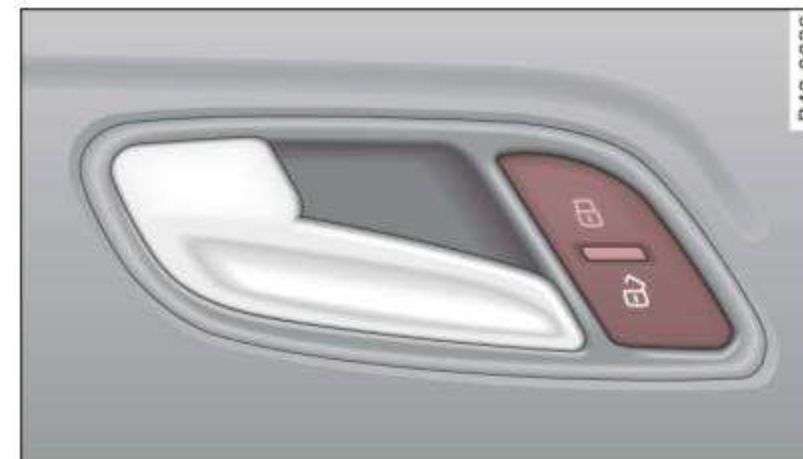

Fig. 33 Section from driver's door: Power locking switch
- Press the upper part of the power locking switch  ⇒ fig. 33 ⇒ ⚠.